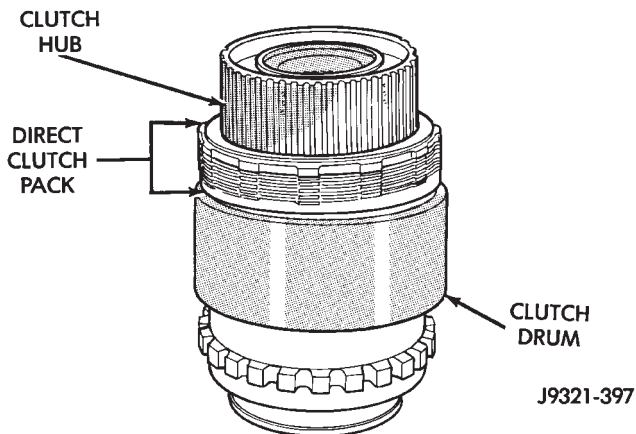

Fig. 235 Direct Clutch Pack And Clutch Hub Installation
(19) Install clutch hub and clutch pack on direct clutch spring (Fig. 235). **Be sure hub is started on sun gear splines before proceeding.**